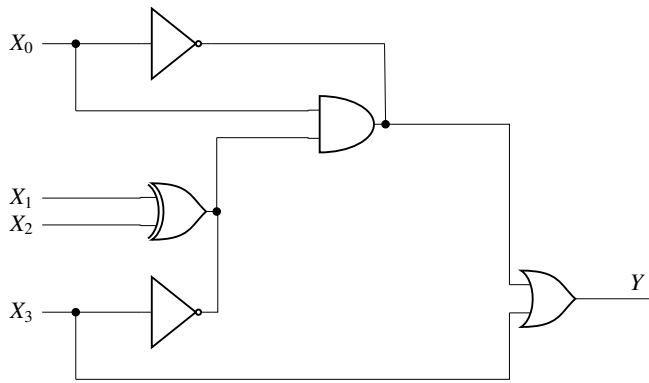

Fig. 3.36
54. The logic gates shown in the digital circuit below in Fig. 3.36 use strong pull-down nMOS transistors for LOW logic level at the outputs. When the pull-downs are off, high-value resistors set the output logic levels to HIGH (i.e. the pull-ups are weak). Note that some nodes are intentionally shorted to implement “wired logic”. Such shorted nodes will be HIGH only if the outputs of all the gates whose outputs are shorted are HIGH. The number of distinct values of  $X_3X_2X_1X_0$  (out of the 16 possible values) that give  $Y=1$  is —. (GATE-EC 2018, 47)